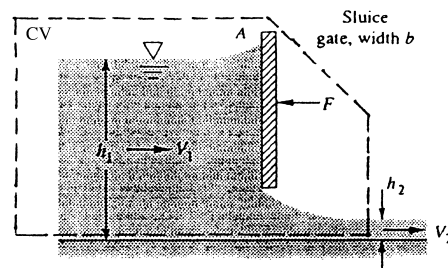

Fig. P3.63
3.63 The sluice gate in Fig. P3.63 can control and measure flow in open channels. At sections 1 and 2, the flow is uniform and the pressure is hydrostatic. The channel width is b into the paper. Neglecting bottom friction, derive an expression for the force F required to hold the gate. For what condition h_2/h_1 is the force largest? For very low velocity $V_1^2 \ll gh_1$, for what value of h_2/h_1 will the force be one-half of the maximum?